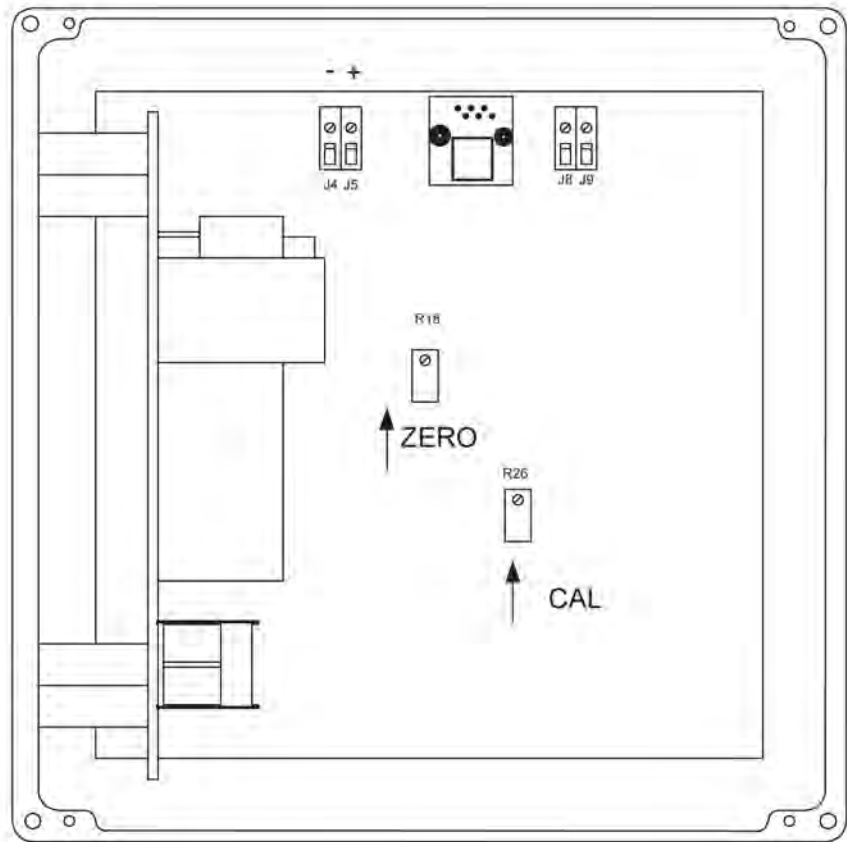

Figure 1.0
- 7) If the oxygen value obtained from the analog output differs from that which is expected from the calibration gas, a span adjustment should be made. (BE SURE TO ALLOW THE READING TO COME INTO EQUILIBRIUM BEFORE MAKING ANY ADJUSTMENTS. OXYGEN ADSORBED ON INPUT LINES, VALVES, REGULATORS AND FILTERS MAY TAKE SOME TIME TO COMPLETELY DESORB) To accomplish this, refer to Figures 1.0 or 2.0 and locate the gain adjustment (R26). Adjust this potentiometer so the oxygen value reflected in the analog output is equal to the oxygen value represented by the calibration gas.
Once the transmitter is placed on zero gas, enough time should be given for the reading to stabilize. This length of time will be predicated on factors such as length of tubing, tubing material, flow rate, etc. Once the zero reading has stabilized, if the oxygen value obtained from the 4-20 mADC output is not equivalent to zero (4 mADC) an offset adjustment should be made. To do this, locate the zero adjustment R18 (Figures 1.0 or 2.0). Adjust this potentiometer so the oxygen value reflected in the 4-20 mADC output is at 4 mADC. Once accomplished, the transmitter can now be placed back in service.